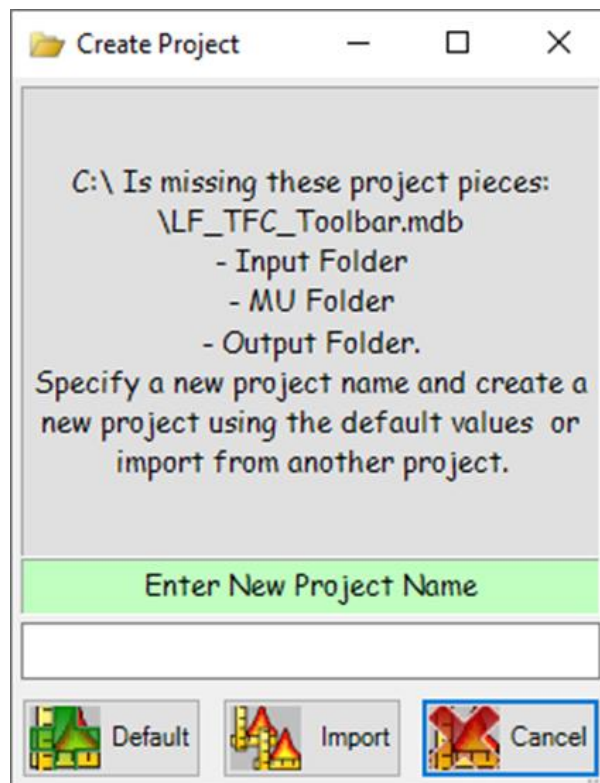

Figure 6-4. Specify a project name.
- Once the project folder has been created, the **Create Project** dialog box will open (Figure 6-4).
- Use the **Create Project** dialog box to specify a name in the Enter New Project Name box (Figure 6-4).